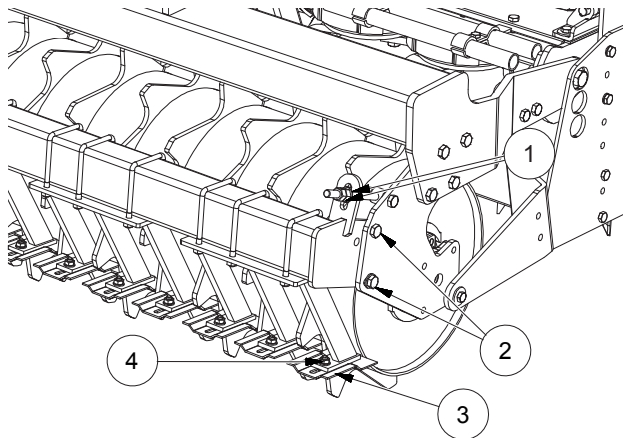

FIG. 29
- Loosen nut (2, "Fig. 29").
- Loosen nuts (1) until the scraper is at the desired distance from the roller.